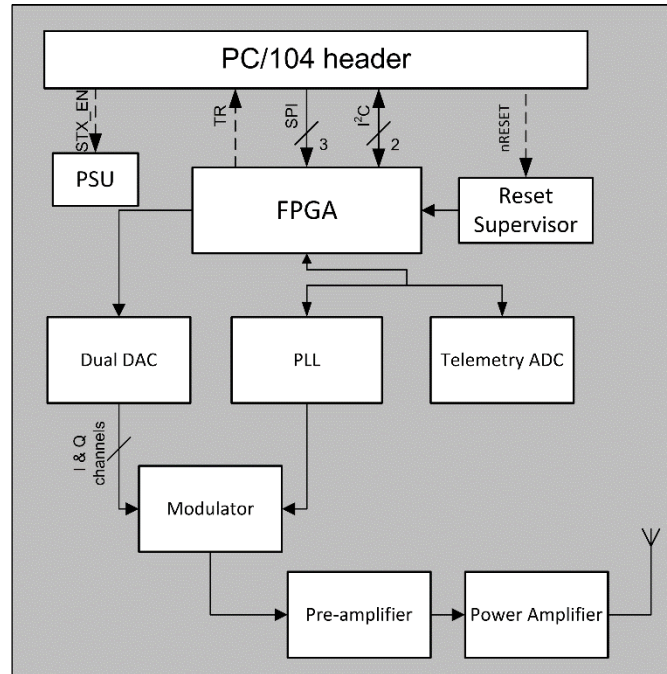

Figure 4: Block diagram of the CSK header connections. Broken lines indicate optional connections.
Figure 4 illustrates the connections that are made available at the CSK header. Broken lines indicate optional connections. The only non-optional connection to the header (excluding power signals) is I²C and SPI. Optional connections that are provided on the header include a transmit ready (TR) signal, FPGA reset and STX enable. The optional connections can be selected at the time of production and should be selected according to application and performance requirements. Should the optional functionality not be required it will not be made available at the header (there will be no physical connection). An explanation of the various connections is detailed later within this document. Refer to Section 8 for electrical characteristics of the various signals.